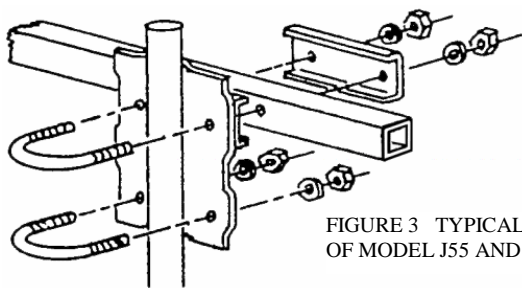

FIGURE 3 TYPICAL MOUNTING OF MODEL J55 AND J105
2. Loosely assemble the dual "U" bolt mounting bracket onto the crossarm as shown in Figure 3.